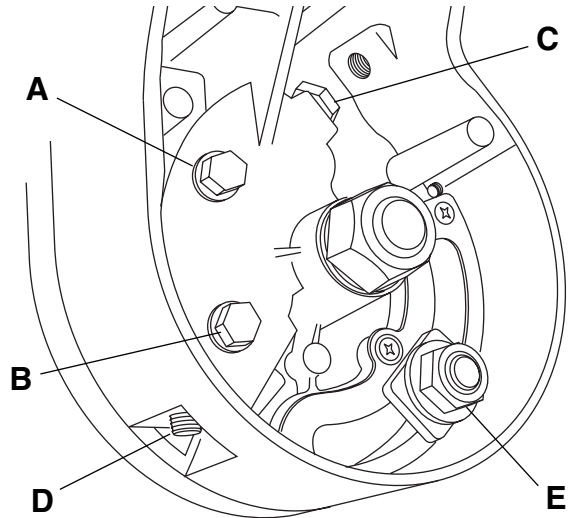

Figure 6. Calibrating Blade at 0 degrees (90 to the table)
2. Loosen bolt heads “A” and “B” with 10 mm open-end wrench at least one full turn (Figure 6).
3. Place 4 mm Allen wrench bit onto multi purpose tool and into setscrew “D” (Figure 6).
2. Place 17-mm open-end flat wrench on bolt head “E” (Figure 6).